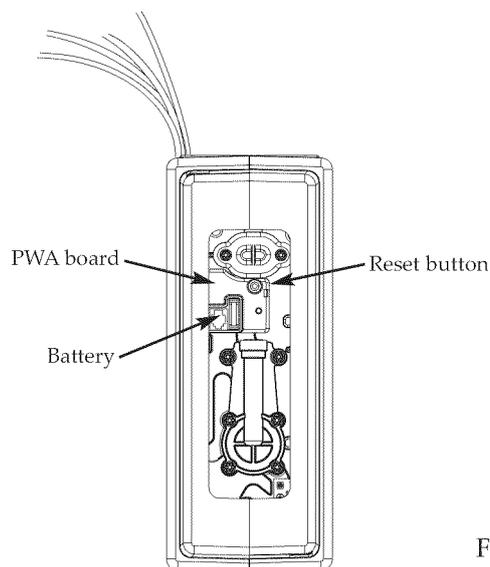

Figure 29
7. Remove and replace the timer battery. See Figure 29.
5. Remove and replace the timer battery. See Figure 29.